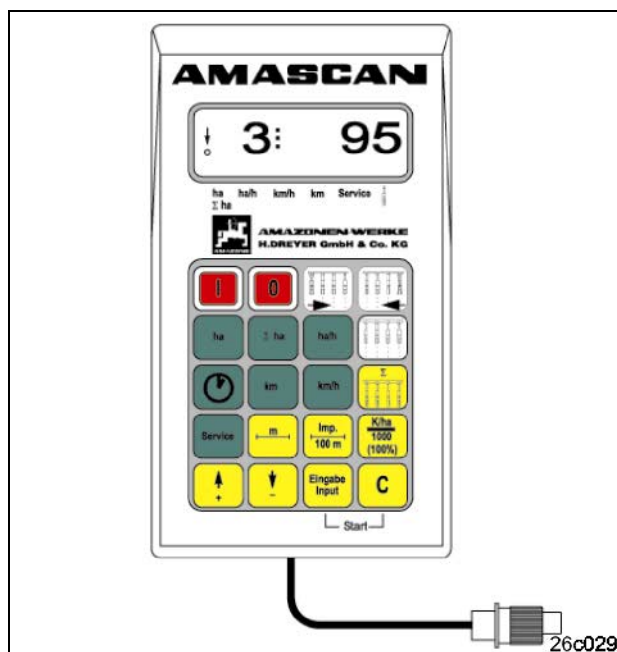
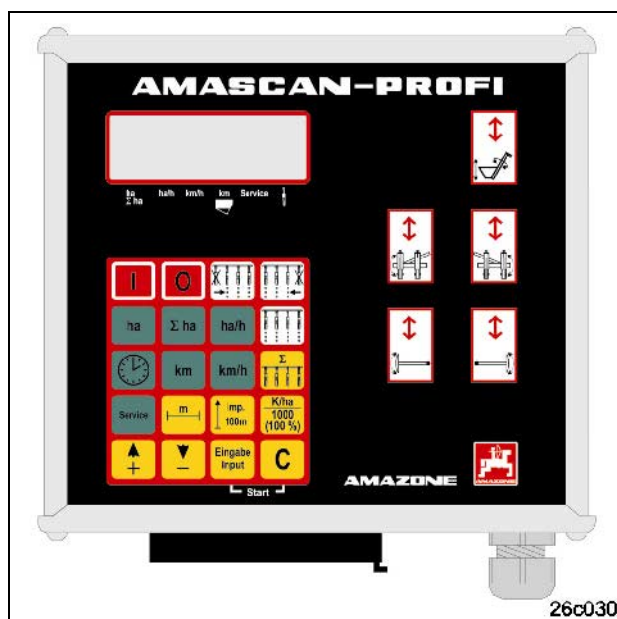

Fig. 42
Fig. 43
- AMASCAN Profi (Fig. 42 and Fig. 43)
AMASCAN (Fig. 42) and
AMASCAN Profi (Fig. 43) are display- and monitoring devices.